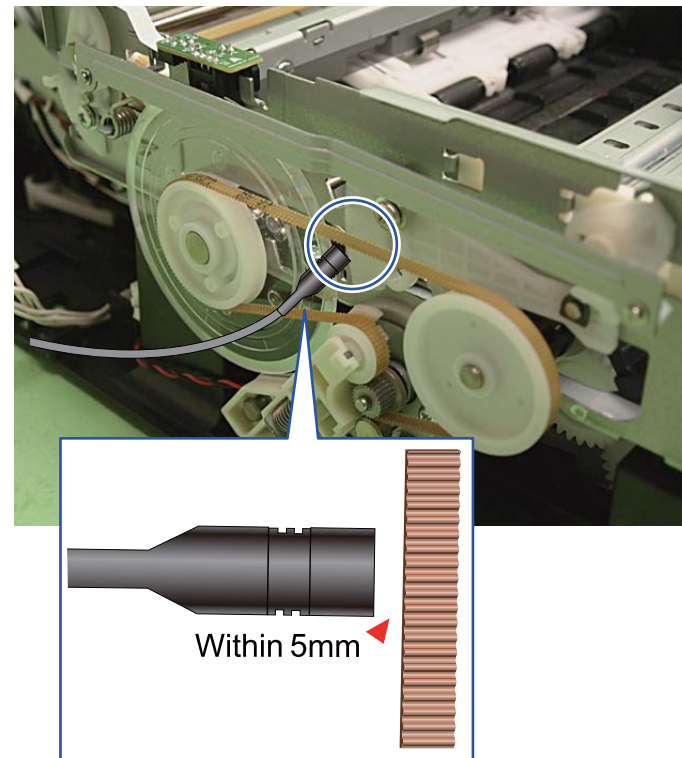

Figure 5-43. Preparation
3. Bring the microphone closer to the center of the Timing Belt. (See Figure 5-43 \(p.241\))